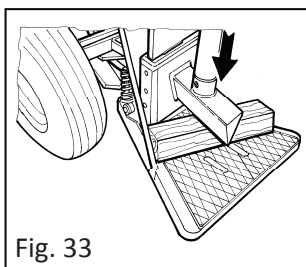

Fig. 33
2. Lower the cutter to stroke end on the piece positioned crosswise between the blade and the base of the frame and put a slight pressure in the hydraulic system. (Fig. 33)